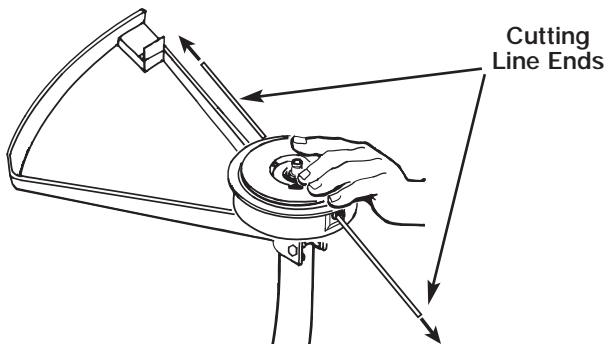

Fig. 18
9. Once the spool is in place, apply pressure on the spool that is compressing the spring. Pull each end of the line sharply to unlock the line from the slots (Fig. 18).